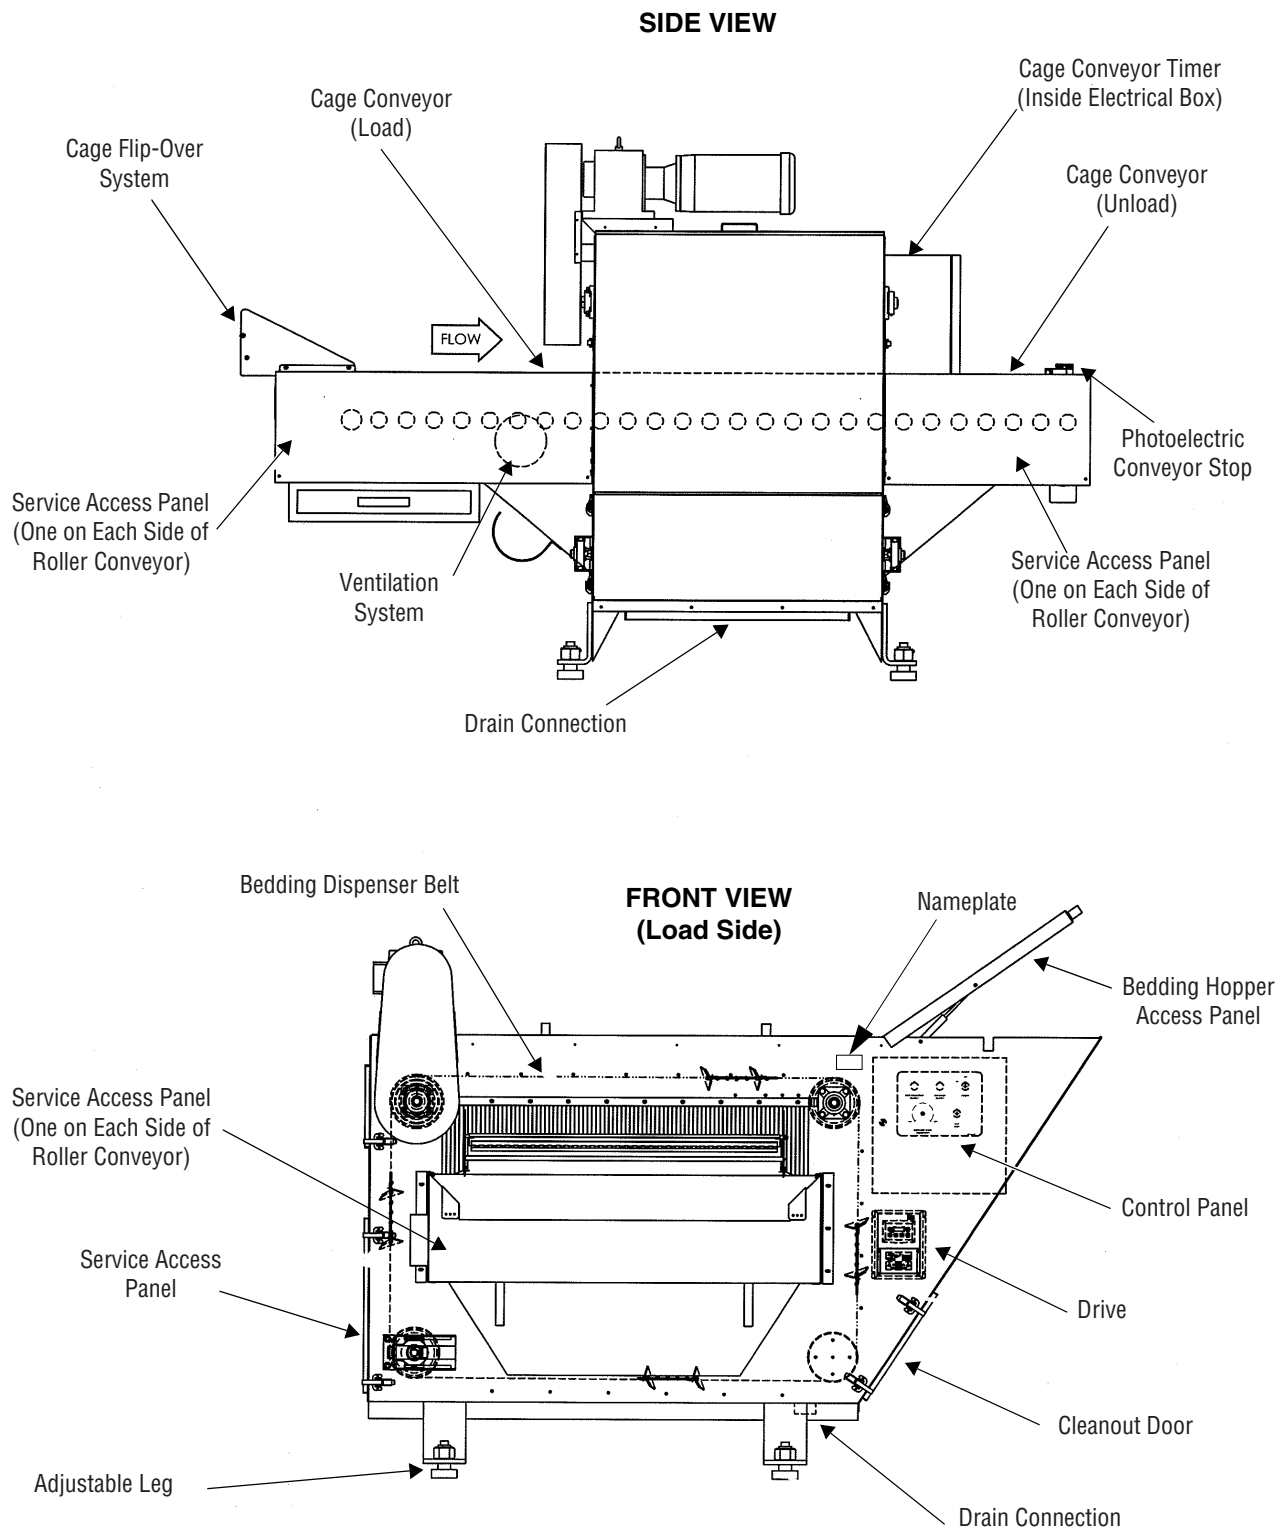

Figure 3-1. Basil 3600 Bedding Dispenser
These specifications are intended to describe the technical information given on the bedding dispenser identification nameplate and to state other relevant information. Verify equipment drawing (122-998-267 or 122-998-283) or identification nameplate, located on upper left corner of control panel (See Figure 3-1), for proper voltage and amperage.
Before operating the Basil® 3600 Bedding Dispenser, it is important to become familiar with the location and function of all components and controls (see Figures 3-1, 3-2 and 3-3).
See Figure 3-1.
1. Open hinged cover (refer to Figure 3-1).